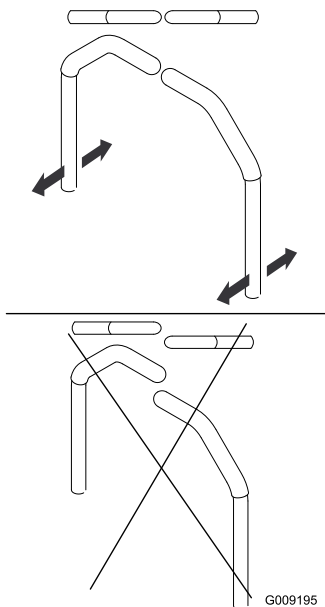

Figure 82
4. Align the levers in the front-to-rear position by bringing the levers together to the neutral position, and slide them until they are aligned, then tighten the bolts (Figure 82).